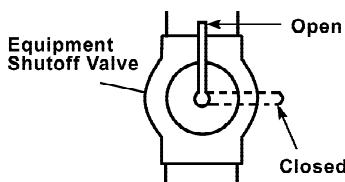

Figure 14 -Equipment Shutoff Valve
1. Close equipment shutoff valve (see Figure 14).
1. Open equipment shutoff valve (see Figure 14).